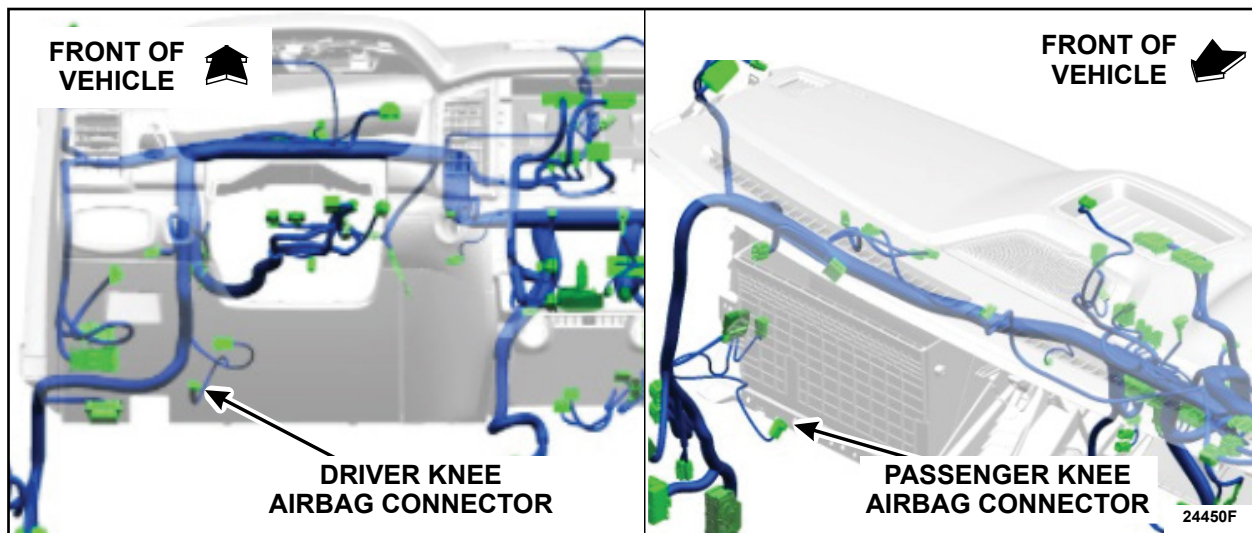

FIGURE 1
2. Disconnect the driver knee airbag and passenger knee airbag electrical connector. See Figure 1.